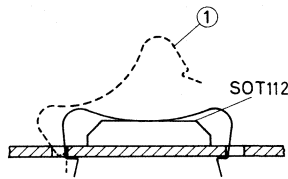

Fig. 1b Mounting.
2. Push the short end of the clip into the narrow slot of the heatsink with the clip at an angle of 10° to 30° to the vertical (see Fig.1b).